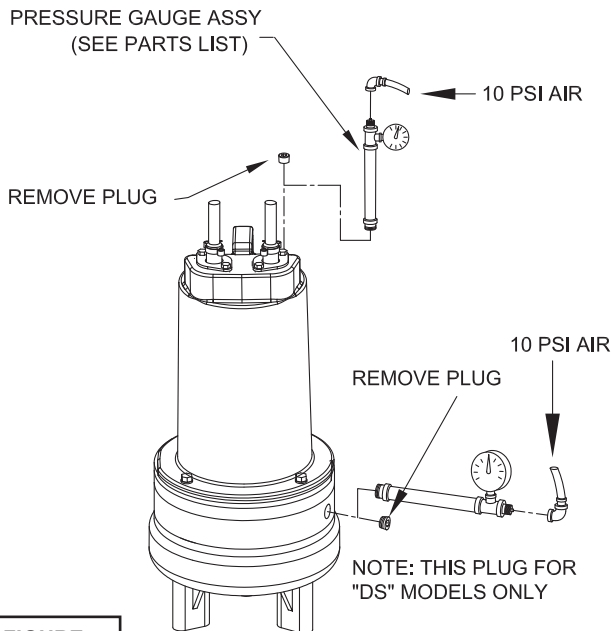

FIGURE 4
Pumps that have had the oil drained from the Motor Housing - Apply pipe sealant to pressure gauge assembly and tighten into pipe plug hole (See Figure 4). Pressurize motor housing to 10 P.S.I. Use soap solution around the
sealed areas and inspect joints for “air bubbles”. If, after five minutes, the pressure is still holding constant, and no “bubbles” are observed, slowly bleed the pressure and remove the gauge assembly. Replace oil as described in section F-1.4. If the pressure does not hold, then the leak must be located and repaired. **Pumps that have NOT had the oil drained from the Motor Housing -** The pressure test may be done with the oil at its normal level. Remove pipe plug (39) from motor housing (6). Apply pipe sealant to pressure gauge assembly and tighten into hole (see Figure 4). Pressurize motor housing to 10 P.S.I. Use soap solution around the sealed areas above the oil level and inspect joints for “air bubbles”. For sealed areas below the oil level, leaks will seep oil.